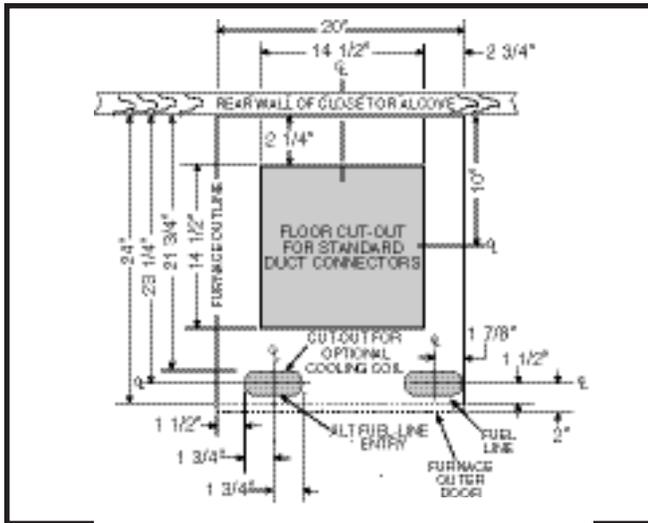

Figure 8. Cut-Out Dimensions for Round Duct Connectors
Floor cut-outs and fuel line holes must be carefully located to avoid misalignment of the furnace, and vent piping. To locate standard ducts see Figure 7 \(page 8\). For round ducts, see Figure 8 \(page 8\).
2. Using the centerline as a starting point, draw the rest of the duct cut-out to the dimensions shown in Figure 7 or Figure 8.
6. Measure and drill gas hole and cut out for cooling coil (if applicable). See Figure 7 or Figure 8.